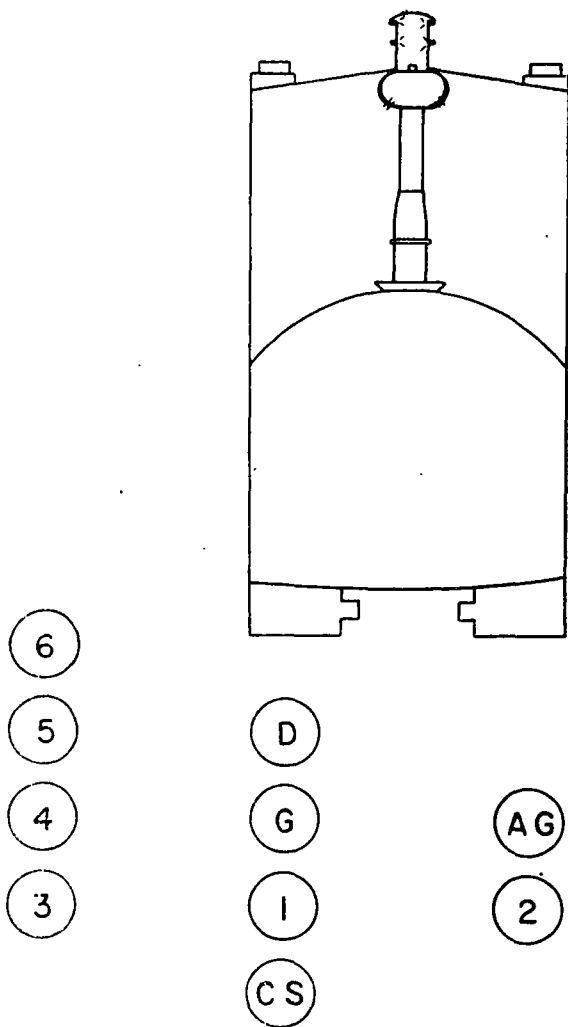

Figure 5. Posts, dismounted.
(1) Figure 5, dismounted.
- (1) At the preparatory command, the section moves at double time to positions shown in figure 5.
- (1) At the preparatory command, compartment doors are opened, and personnel assume a crouched position in order to dismount rapidly.
- (2) At the command of execution, personnel take positions as shown in figure 5.
b. DISMOUNT. The section moves without delay to positions as shown in figure 5.
b. Each man takes his post (fig. 5), when he has completed his duties.